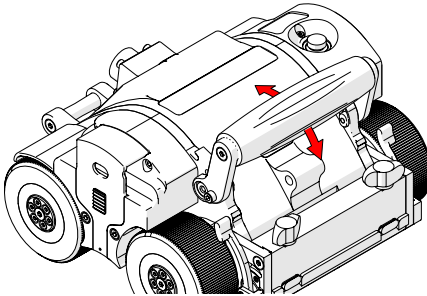

Fig. 57 - Pivot handle as desired
2. Pivot the handle as required (Fig. 57).